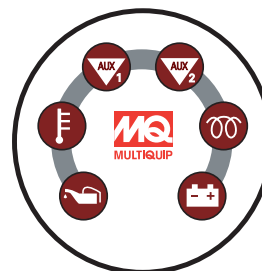

Figure 14. Indicator Lights
4. Turn the ignition key clockwise to the **ON** position. The Aux1, Aux 2, Coolant Temp, Cruise, and Pitch Mode lights (Figure 14) will light for 10 seconds and the Charge Lamp will remain on until the engine starts. The coolant fan will run for 10 seconds.